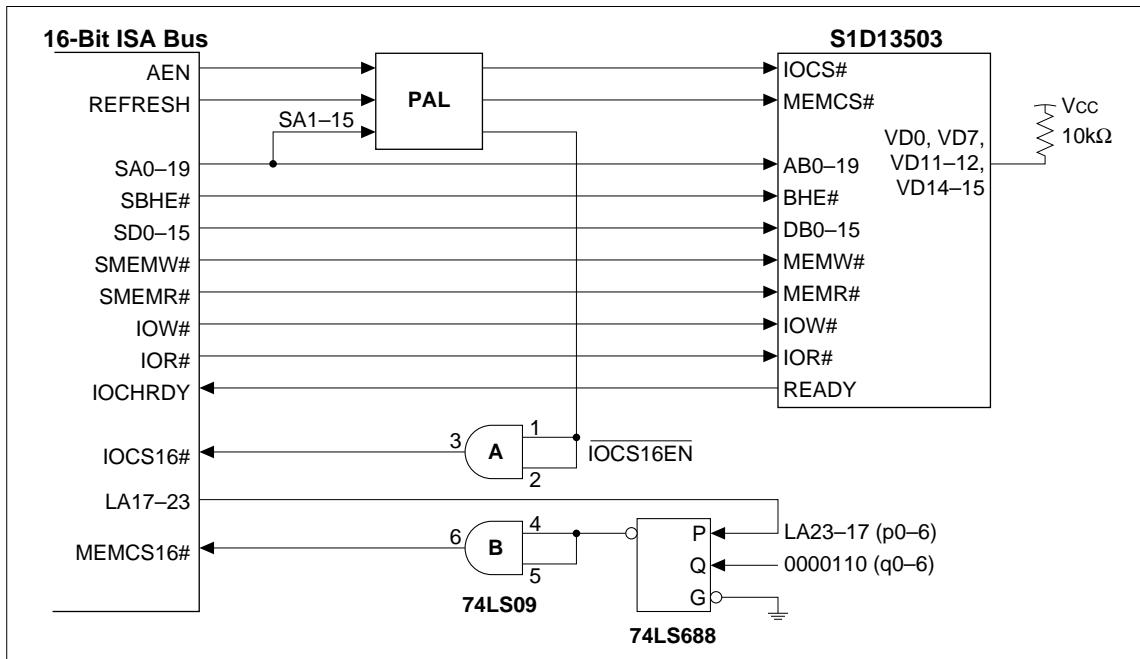

Figure 1-1 16-Bit ISA Bus Implementation
| Figure 1-1 | 16-Bit ISA Bus Implementation | 5-2 |
1. As shown in Figure 1-1, the 74LS688 is configured as a memory decoder with valid addresses between 0C0000h and 0DFFFFh. This provides the MEMCS16# signal allowing for 16-bit memory cycles. As stated in the ISA specification, the MEMCS16# is a straight address decode without qualification.